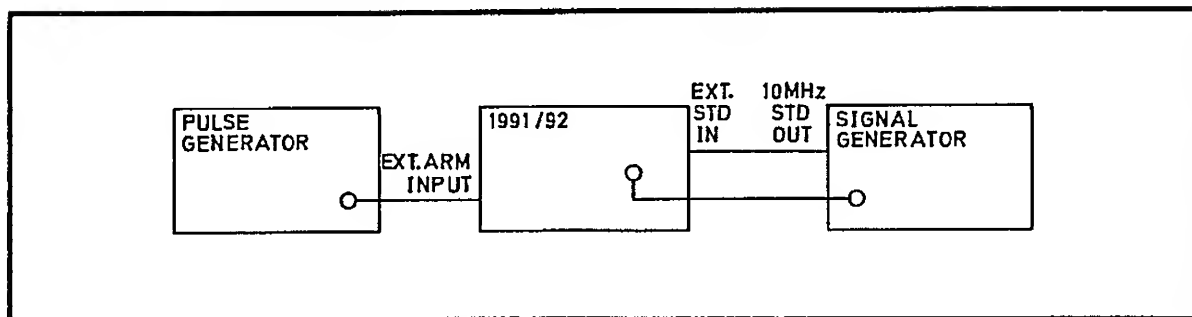

Fig 7.22 Connections for External Arming PVP
- 59 (1) Select 50 Ω on channel A and FREQ A. Press the RESOLUTION key three times until 00000 is displayed.
- (2) Connect the test equipment as shown in Fig 7.22.
- (3) Set the signal generator output to 10 MHz at a level of 200 mV r.m.s.
- (4) Prepare the pulse generator to give a single, 300 μs , positive-going pulse with a low level of +0.4 V and a high level of +2.4 V (TTL limit levels).
- (5) Press 1 6 SHIFT STORE SF SHIFT SF
- (6) Verify that the instrument is not counting.
- (7) Trigger the pulse generator to obtain a single pulse output.
- (8) Verify that the display indicates 10.0000 6 Hz ± 1 count and that the instrument is not continuously gating.
- (9) Press 1 0 SHIFT STORE SF SHIFT SF
(10) Disconnect the test equipment.